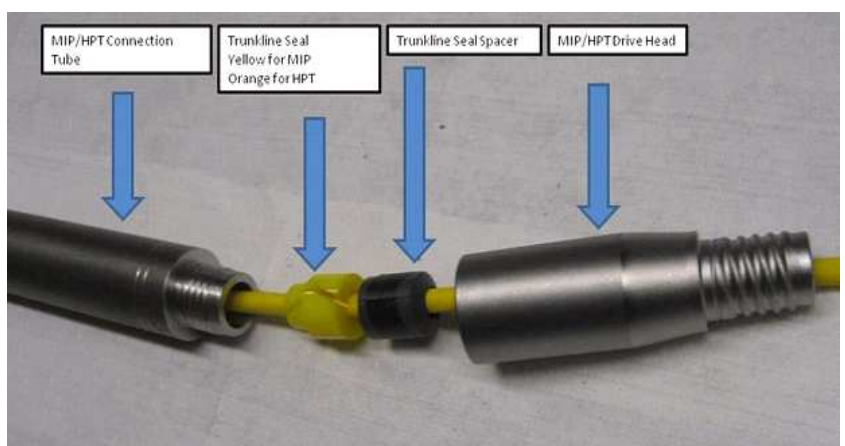

Fig. 8: Installation of the Water Seal System
When connecting the gas lines (Fig. 8), whether using Teflon or Peek tubing, there should be slack in gas lines. If there is not enough slack, the tubing will stretch and break. If possible, wrap the excess gas line coming from the trunkline around the electrical wires in the connecting area (Fig. 5). This will help to take up the slack of the gas lines, allow for movement inside the connecting tube, and avoid any tight bends or folds of the gas line.
2. Place the yellow trunkline seal (p/n 37032) around the trunkline at the top of the connecting tube (Fig.8). Placing some Vaseline or dielectric grease on the top seal will help ease the seating of the drive head (p/n 20712).